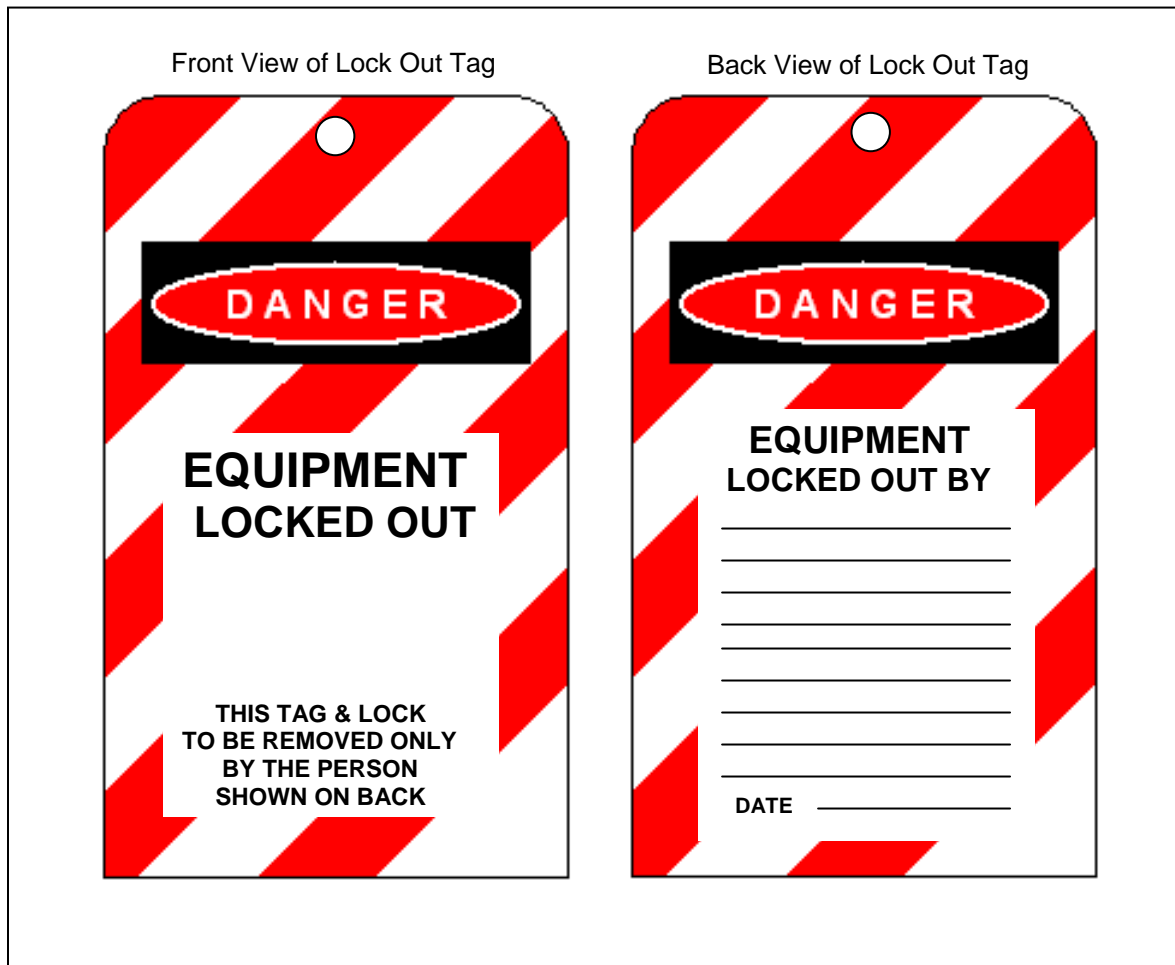

Fig. 2-6
- e. Fill out and attach a Lock Out tag to the Lockout Box, see figure 2-6.
- d. Fill out and attach a "Lock Out" tag to the circuit breaker lockout device, see figure 2-6.